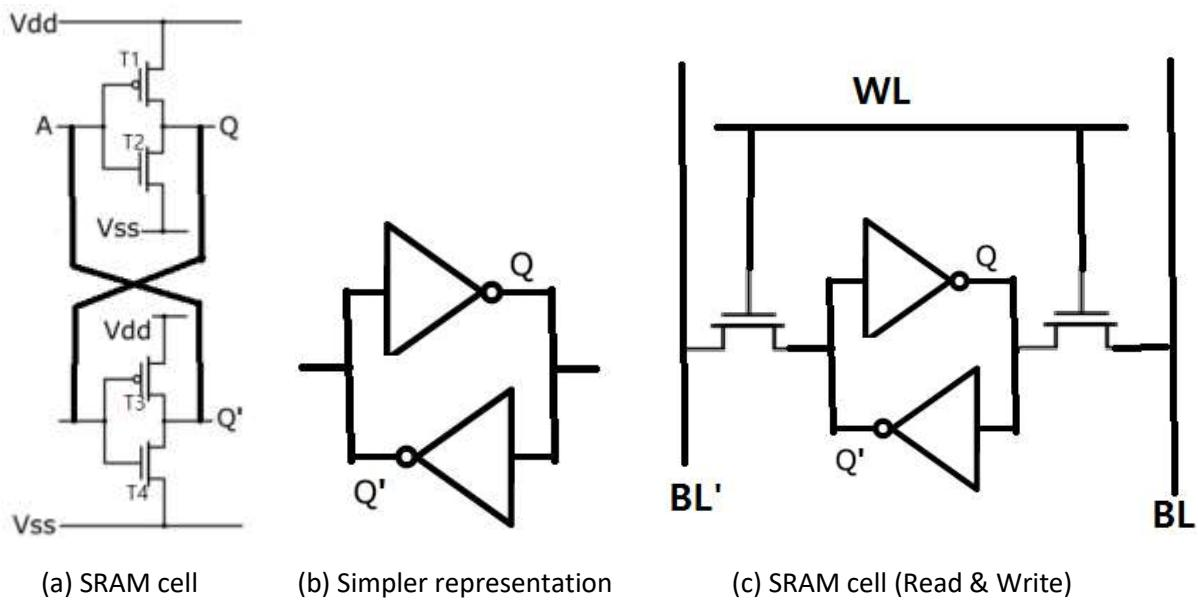

Figure 10-8. MOSFETs to implement a memory cell.
MOSFETs are a building block to implement a NAND logic gate as shown in Figure 10-8(a), which is in turn a building block to implement all other logic gates as in Figure 10-8(b).
And, a pair of CMOS inverters is used to implement a memory cell. Figure 10-8(a) shows a SRAM (static random access memory) cell. SRAM is a type of digital memory consisting of cells each capable of storing one binary digit. An SRAM cell is constructed as two cross-coupled inverters, hence leading to two stable states.
Here is how it works. In Figure 10-8(a), when A is low, the NMOS transistor (T2) is in a high resistance state, disconnecting V_{ss} from Q. The PMOS transistor (T1) is in a low resistance state, connecting V_{dd} to Q. Therefore Q is high. When Q is high, the NMOS transistor (T4) are in a low resistance state, connecting V_{ss} to Q'. The PMOS transistor (T3) are in a high resistance state, disconnecting V_{dd} to Q'. Therefore Q' is low. Now, since Q' (low) connects to A, it itself is in a stable condition without any outside input. This constitutes a RAM cell.
Figure 10-8(c) shows the logical description of a SRAM cell (consisting of 6 MOSFET transistors, hence called 6T SRAM cell) that allows read and write operations. Two additional transistors are known as the pass transistors. The wordline (WL), bitline (BL), and its complement (BL') are used to access the cell.
One recent development with SRAM cells is to use it as an intrinsic security primitive. While the two inverters in a SRAM cell are designed in a well-balanced, symmetrical way, the small and random submicron process variations in the manufacturing process cause different physical properties of the transistors. In other words, it is not clear from Figure 10-8 at what state it will be right after power-up of the memory, i.e. what happens when the supply voltage comes up? In fact, the random physical mismatch in the cell, caused by manufacturing variability, determines the power-up behavior.